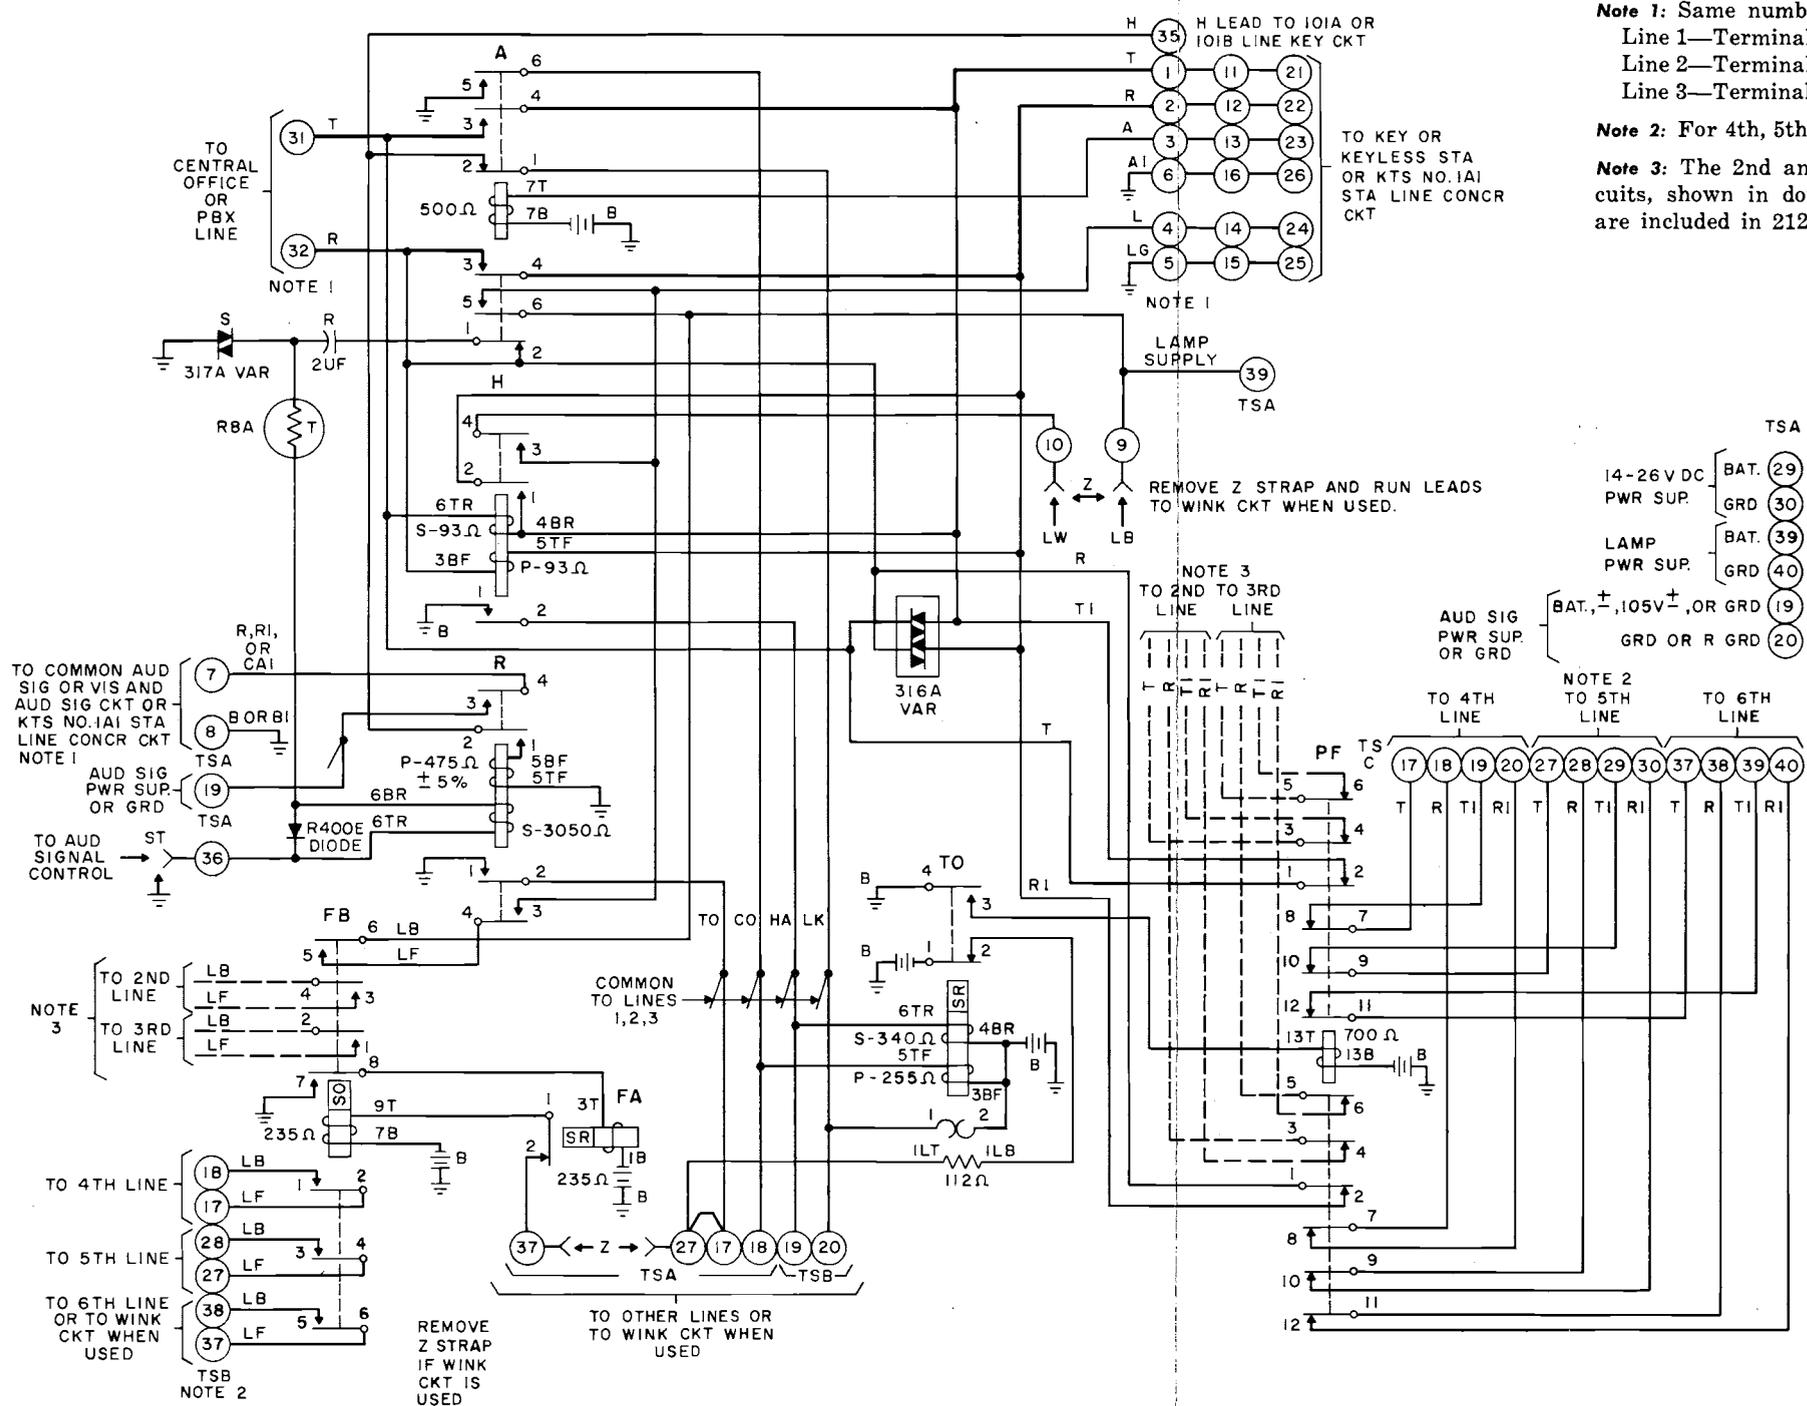

Fig. 1—212A KTU
2.01 Fig. 1 is a schematic drawing of the 212A KTU with various wiring options.